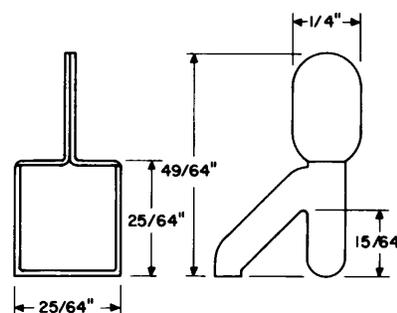

Fig. 10—689A Spring Holder Tool
2.06 689A: The 689A spring holder tool (Fig. 10) is used on the left row of movable contact springs when replacing stationary contacts of 286-, 287-, and 288-type relays.